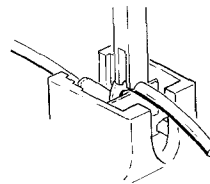

Fig. 41—Align tool with cut off blades.
- d. To cut excess wire, align slot with cut off blade and groove with wire. Push straight down. Remove excess wire from module. See Figure 41. Do not rock tool back and forth.